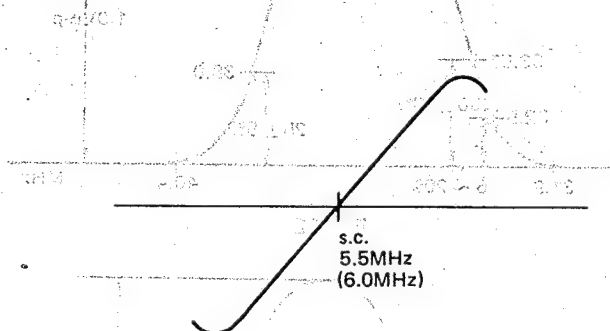

Fig. 15
3. Adjust L201 so that sound carrier (6.0 MHz) is centered as in fig. 15.